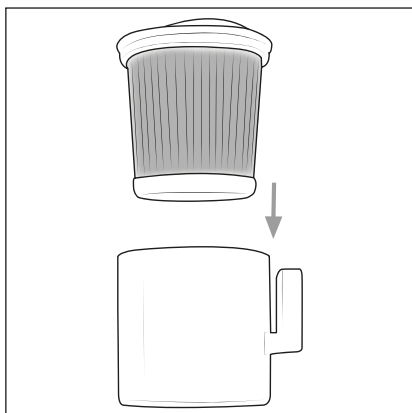

Fig. 20
- 7) Insert the HEPA filter **4** into the HEPA filter container **5** (see Fig. 20).